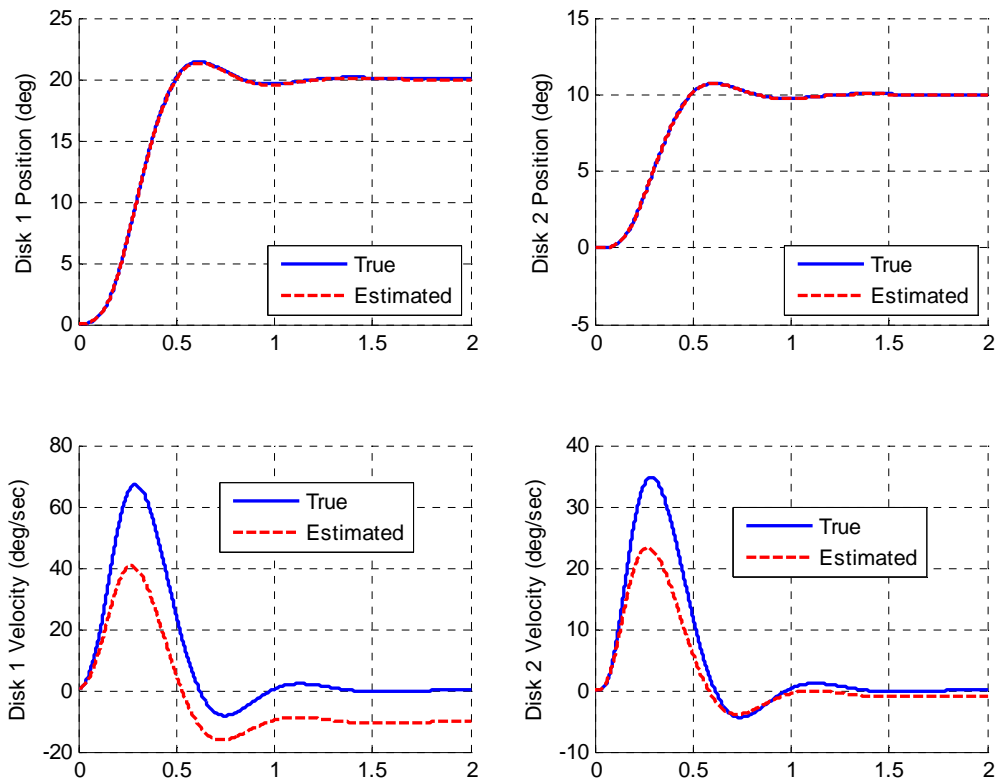

Figure 23. State feedback, full order observer, and integral control for the 2 dof system with a bad model (problem 6d).
d) Now change the observer poles to be 10 times larger than before ($10 \cdot p_o$). You should get the figure like that in Figure 23.